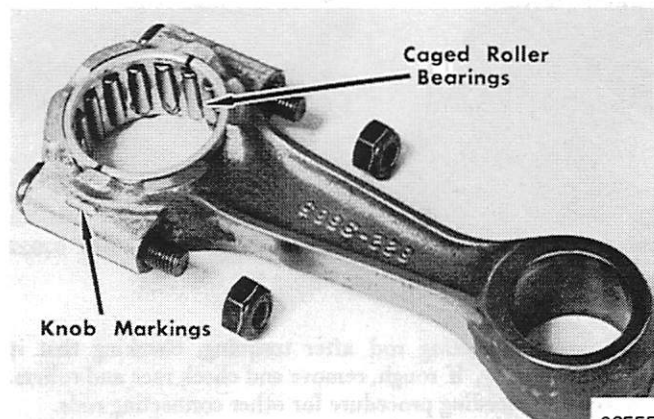

Figure 4. Rod and Rod Bearings
10. Place connecting rod cap so that knob markings match connecting rod. (Figure 4)